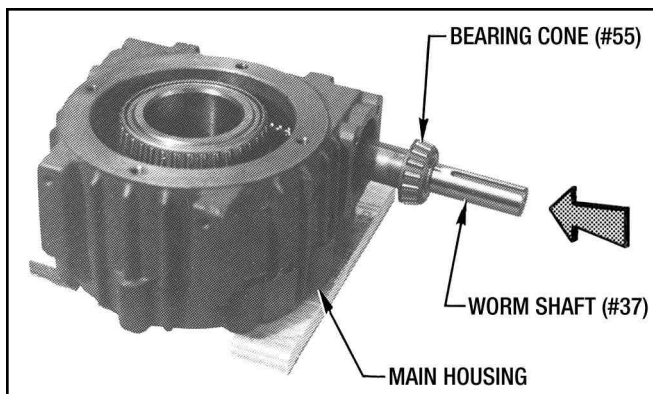

Figure 9.5 - Inserting Worm Shaft Into Main Housing
1. Press (1) Bearing Cone (#55) onto the brake side of the Worm Shaft (#37) and slide the Worm Shaft (#37) into the main housing bore. (See Figure 9.5.)